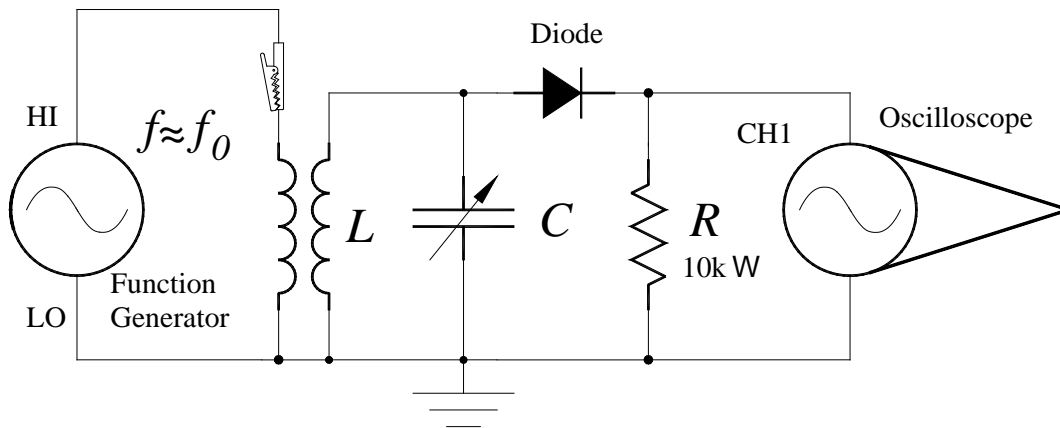

Figure 13 Schematic diagram of radio receiver circuit using a function generator as frequency source.
11) Add the diode and a resistor detector to the LC circuit, as shown in Figure 13. Adjust the frequency of the function generator to be close to the resonant frequency of your LC combination. Use the oscilloscope to observe the signal “before” and “after” the diode. Make a sketch of what you observe for your report.